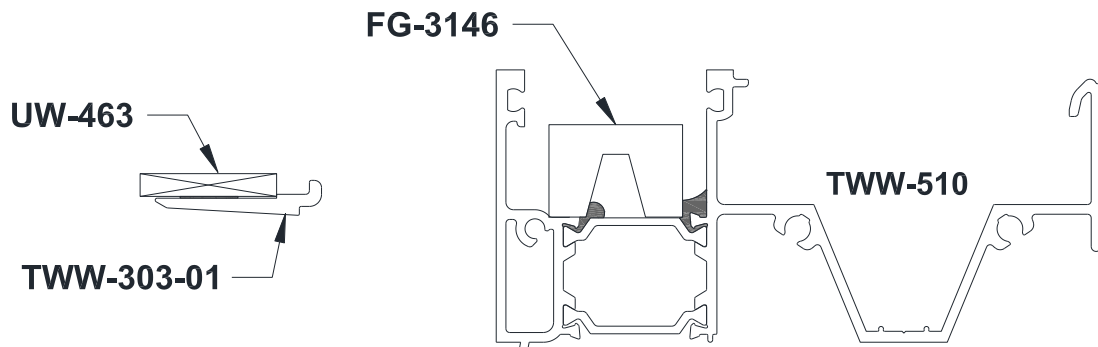

Figure 34: Setting Block Prep, Flat Surface Assembly
12.3.2 Using a small amount of Sealant, adhere the Setting Blocks to the Setting Chairs. Use just enough Sealant to hold the Setting Chair in place. Immediately clean up any excess Sealant. Reference *Figure 34* for a visual guide.
12.3.3 Using a small amount of Sealant, install the Setting Blocks in the Sill. Use just enough Sealant to hold the Setting Blocks in place. Immediately clean up any excess Sealant. Reference *Figure 34* for a visual guide.